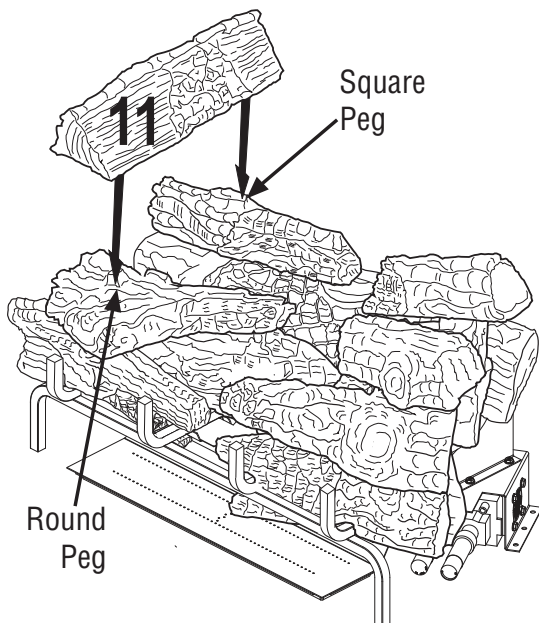

Figure 47 - Installing Log # 11
11. Place the left top log (#11) on top of the left back top log (#5) and left top forked log (#6) as shown in **Figure 47, Page 24**. Match the round peg on the top of the left top forked log (#6) with the round hole on the bottom of the top left log (#11) and rectangular peg on the top of the left back top log (#5) with the rectangular hole on the bottom of the top left log (#11).